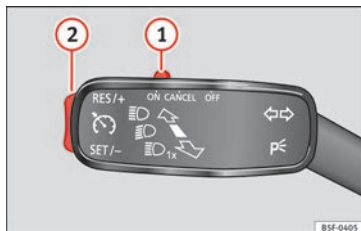

Fig. 182 Turn signal and main beam headlight lever: switch and rocker switch for the cruise control.
- Move the switch » Fig. 182 ① towards the left to **ON**.
- Briefly press the lower part of the rocker switch **SET-** » Fig. 182 ② once when you have reached the speed you wish to set.
• Press the upper part of the rocker switch **RES+** » Fig. 182 ② to increase the speed. The vehicle will continue to accelerate as long as you keep the rocker switch pressed. When you release the switch, the new speed is stored.
• Press the lower part of the rocker switch **SET-** » Fig. 182 ② to reduce the speed. The vehicle will automatically reduce its speed for as long as you keep the switch pressed. When you release the switch, the new speed is stored.
Cruise control is switched off if you reduce speed by depressing the brake pedal. Reactivate the control by pressing once on the upper part of the rocker switch **RES+** » Fig. 182 ②.
- when the lever ① is moved in the direction of **OFF** without being fully engaged.
To resume cruise control, release the brake or clutch pedal or reduce the vehicle speed to less than 180 km/h (112 mph) and press once on the upper part of the rocker switch **RES+** » Fig. 182 ②.
The system is **completely turned off** by moving the control » Fig. 182 ① all the way to the right hand side (set into the OFF position), or when the vehicle is stationary, switching off the ignition.